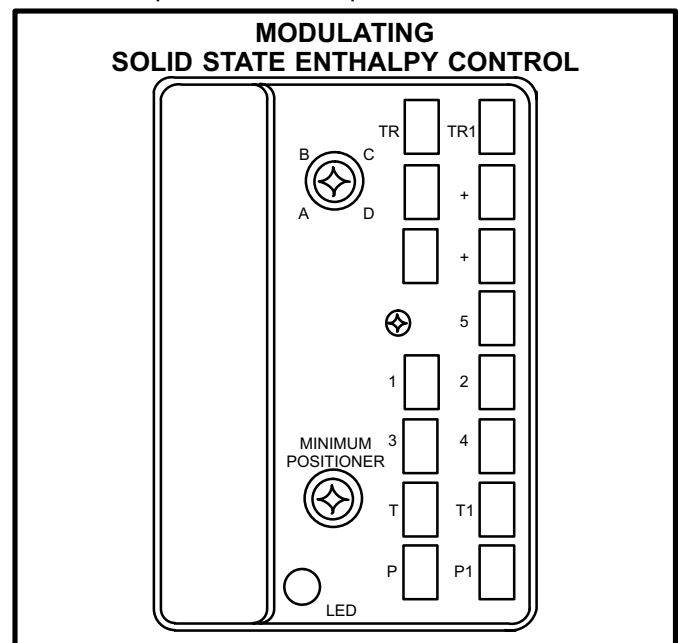

FIGURE 53
- 4- Install jumper across enthalpy control terminals T and T1. See figure 53 for terminal location.
- 7- Remove T and T1 jumper then restore power to the unit. Outdoor damper should drive to minimum position. Adjust minimum damper position pot located on control. See figure 53.